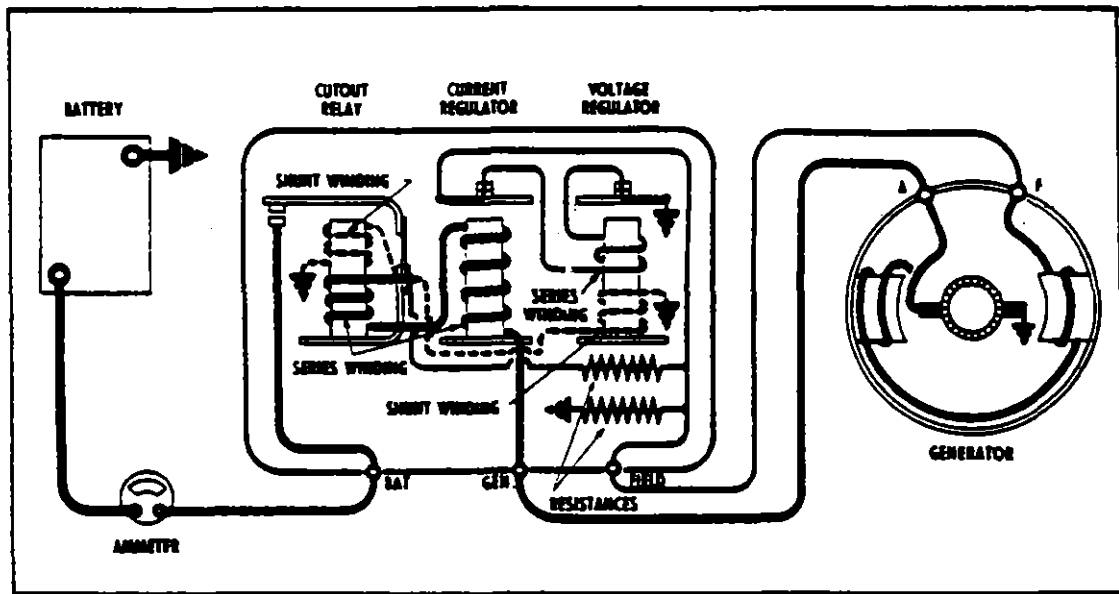
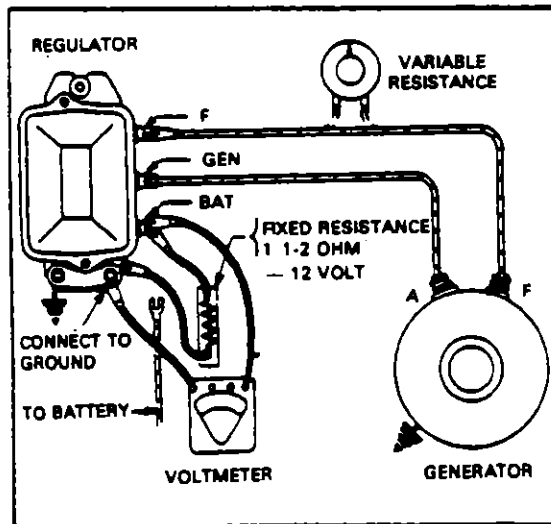

FIGURE 9-3. WIRING CIRCUIT OF THREE UNIT REGULATOR
FIGURE 9-7. CHECKING VOLTAGE SETTING, FIXED RESISTANCE METHOD
9-21. **Regulators.** The regulator shown in Figure 9-3 consists of a cutout relay, a voltage regulator, and a current regulator unit. The cutout relay closes the generator-to-battery circuit when the generator voltage is sufficient to charge the battery, and it opens the circuit when the generator slows down or stops. The voltage regulator unit is a voltage-limiting device that prevents the system voltage from exceeding a specified maximum and thus protects the battery and other voltage-sensitive equipment. The current regulator unit is a current-limiting device that limits the generator output so as not to exceed its rated maximum.
a. The cutout relay (Figure 9-3) has two windings, a series winding of a few turns of heavy wire and a shunt winding of many turns of fine wire (shown in dashed lines). The shunt winding is connected across the generator so that generator voltage is impressed upon it at all times. The series winding is connected in series with the charging circuit so that all generator output passes through it. The relay core and windings are assembled into a frame. A flat steel armature is attached to the frame by a flexible hinge so that it is centered just above the end of the core. The armature contact points are located just above the stationary contact point. When the generator is not operating, the armature contact points are held away from the stationary points by the tension of a flat spring riveted on the side of the armature.
a. The voltage regulator (Figure 9-3) has two windings assembled on a single core, a shunt winding consisting of many turns of fine wire (shown in dashed lines) which is shunted across the generator, and a series winding of a few turns of relatively heavy wire which is connected in series with the generator field circuit when the regulator contact points are closed.
a. The current regulator (Figure 9-3) has a series winding of a few turns of heavy wire which carries all generator output. The winding core is assembled into a frame. A flat steel armature is attached to the frame by a flexible hinge so that it is just above the core. The armature has a contact point which is just below a stationary contact point. When the current regulator is not operating, the tension of a spiral spring holds the armature away from the core so that the points are in contact. In this position the generator field circuit is completed to ground through the current regulator contact points in series with the voltage regulator contact points.
Figure 9-7 after disconnecting the battery lead from the battery terminal of the regulator. The resistance must be  $1\frac{1}{2}$  ohms for 12-volt units. It must be capable of carrying 10 amperes without any change of resistance with temperature changes.
9-33. Voltage Setting. There are two ways to check the voltage setting—the fixed resistance method and the variable resistance method (refer to figures 9-7 and 9-8).
Method 2 - Connect a variable resistance into the field circuit, as in Figure 9-7. Turn out all resistance. Operate generator at specified speed. Slowly increase (turn in) resistance until generator voltage is reduced to 4 volts. Turn out all resistance again, and note voltage setting (with voltmeter connected as in Figure 9-7). Regulator cover must be in place.
It is very important that the variable resistance be connected at the "BAT" terminal as shown in Figure 9-7 rather than at the "GEN" terminal, even though these terminals are in the same circuit. An examination of the wiring diagram, Figure 9-3, will show that regulation begins at the point where the shunt windings are connected to the series circuit. Any small resistance added to the circuit between the generator and this point will simply be offset by a rise in generator voltage without affecting the output shown at the ammeter.